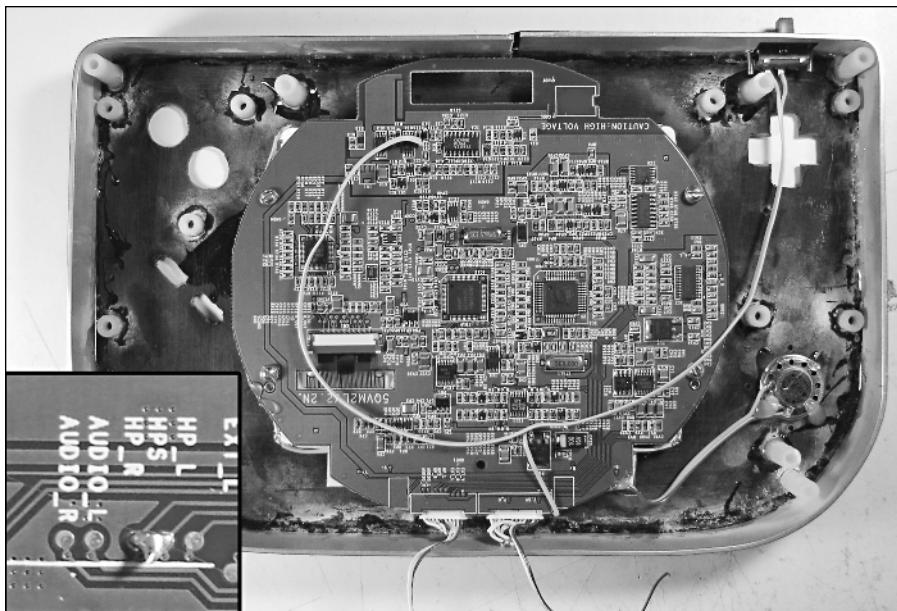

FIGURE 7-18: Attaching the screen, speaker, and power switch.
6. Hot-glue the *speaker* down over the speaker holes now, and connect the audio wires from the screen's left speaker connection to it. The inside of the front half of the case should now look as shown in Figure 7-18.
7. You'll see a close-up of the section above the left cable in Figure 7-18. Put a bit of solder down to connect the HPS and HP_R spots. This enables the speaker to work.